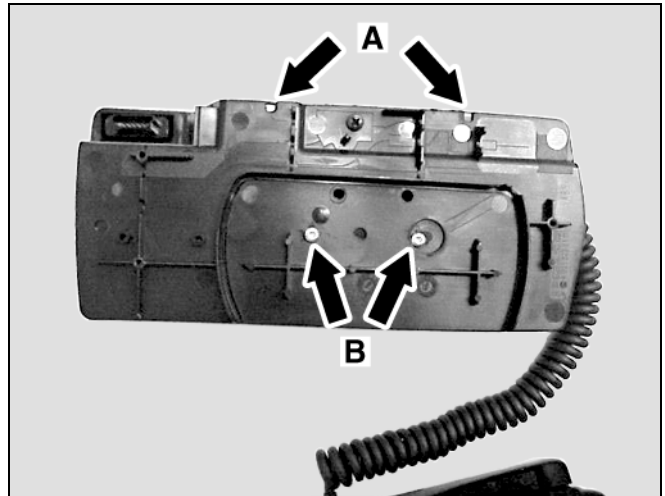

Figure 12
5. Drill out the two notches from the underside of the false floor using a 4.5-mm drill bit (A, Figure 12).
6. Mount the holder to the false floor, with two screws included in the kit, from the underside of the false floor (B, Figure 12).
11. Place the coil-cord through the notches drilled into the false floor (A, Figure 12).